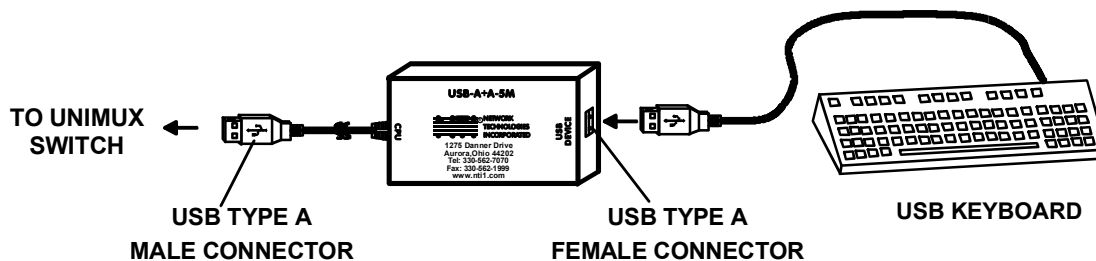

Figure 4- Use USB-A+A-5M to extend a device, or a computer
Note: If device cables are not long enough to reach the UNIMUX switch, they can be extended either 5 or 10 meters using either 1 or 2 NTI USB-A+A-5M Improved Active USB 5 Meter Extensions (purchased separately). (See Figure 4.) Contact your NTI salesperson for more details by calling (800) 742-8324 (800-RGB-TECH) or (330) 562-7070 or visit our website at <http://www.networktechinc.com>.